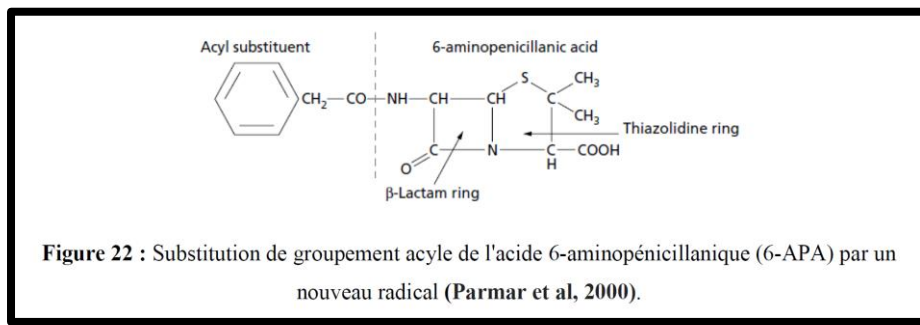

Figure 12 : substitution of the acyl group of 6-aminopenicillanic acid (6-APA) by a new radical (Parmar et al., 2000).
- The majority of penicillins are now semi-synthetic, obtained through chemical modification of natural penicillin from the species *P. chrysogenum*. This modification is achieved by substituting the natural acyl group attached to 6-aminopenicillanic acid (6-APA) with other groups, giving the molecule new properties (figure 12, 13).